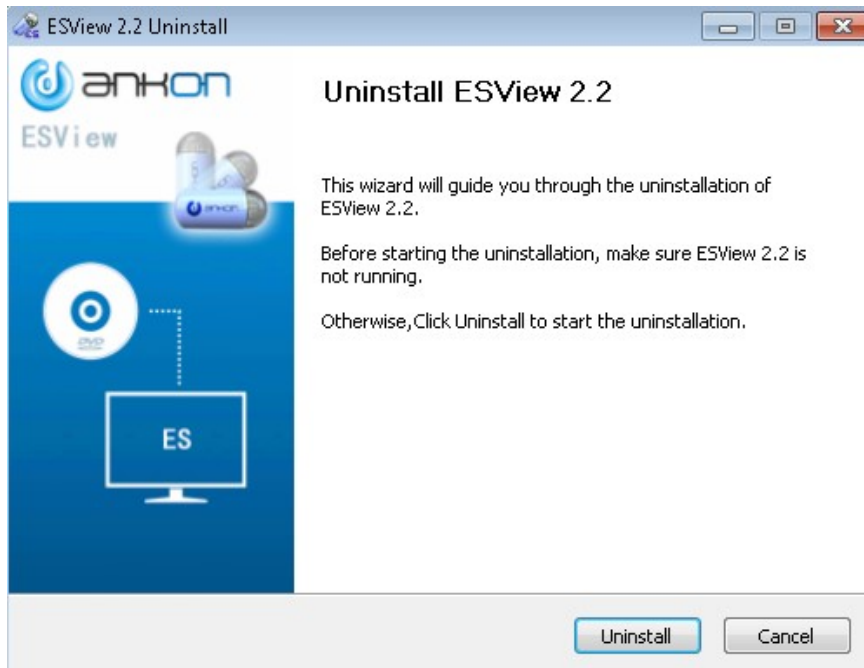

Figure 3-6: Uninstallation Dialog Box
1. To uninstall the ESView software, from the Windows Start menu, select “Programs” → “ESView” → “Uninstall ESView”. The uninstallation dialog box (Figure 3-6) appears. Click “Uninstall” to begin the uninstallation.